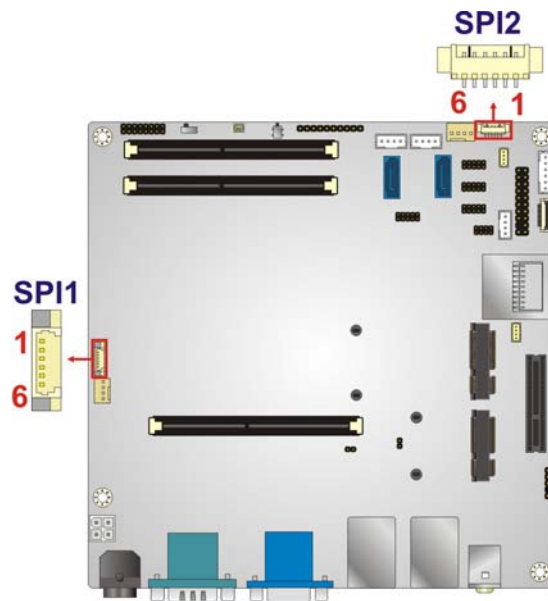

Figure 3-23: SPI Flash Connector Location
- CN Location:See **Figure 3-23**